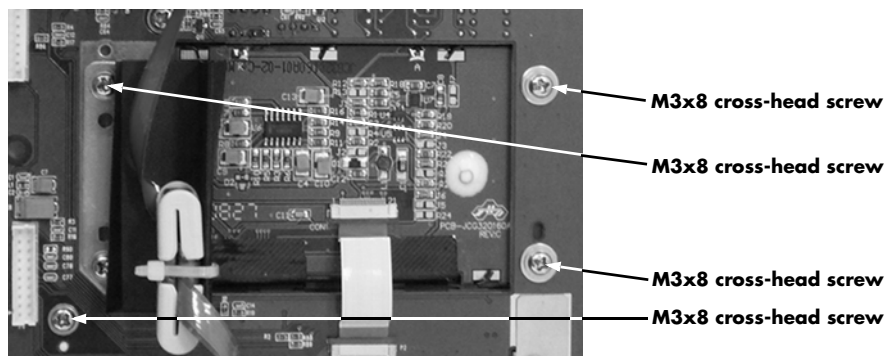

FIGURE 4-7 Remove four (4) M3x8 cross-head screws.
2. Remove the four (4) M3x8 cross-head screws (as shown in Figure 4-7). The monitor with color LCD does not need this step.